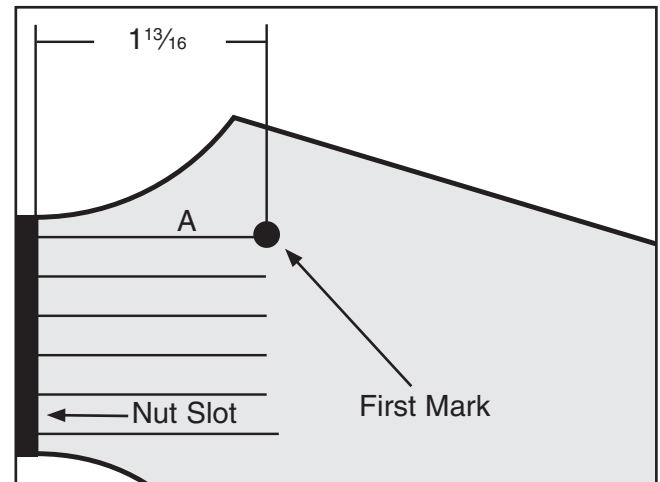

Figure 7. Peghole placement, first mark.
3. Make a mark $1\frac{13}{16}$ " from the fretboard side of the nut slot on line "A" shown in **Figure 7**.
6. Space the centers of the remaining pegholes $\frac{15}{16}$ " apart, as shown in **Figure 7**, and $\frac{1}{2}$ " from the edge of the headstock.